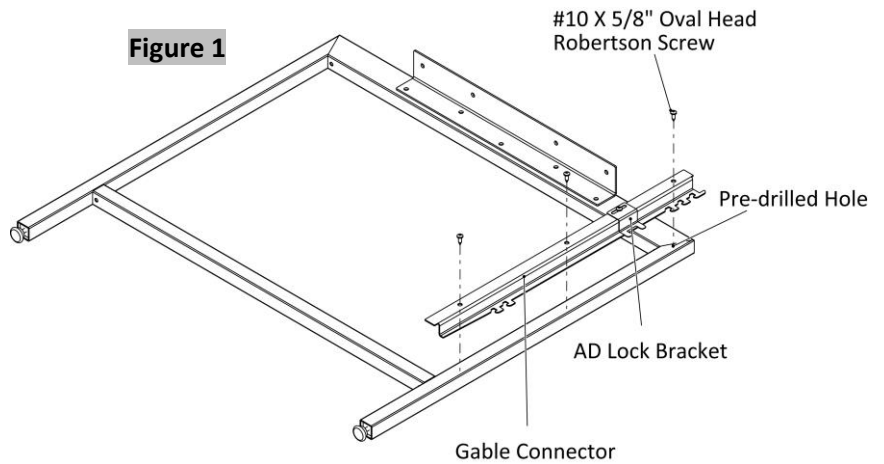

Figure 1
2. Position the gable connector, and flush with the vertical edge of the ladder gable leg. The upper hole of the gable connector should be in the center of the pre-drilled hole, (Figure 1).